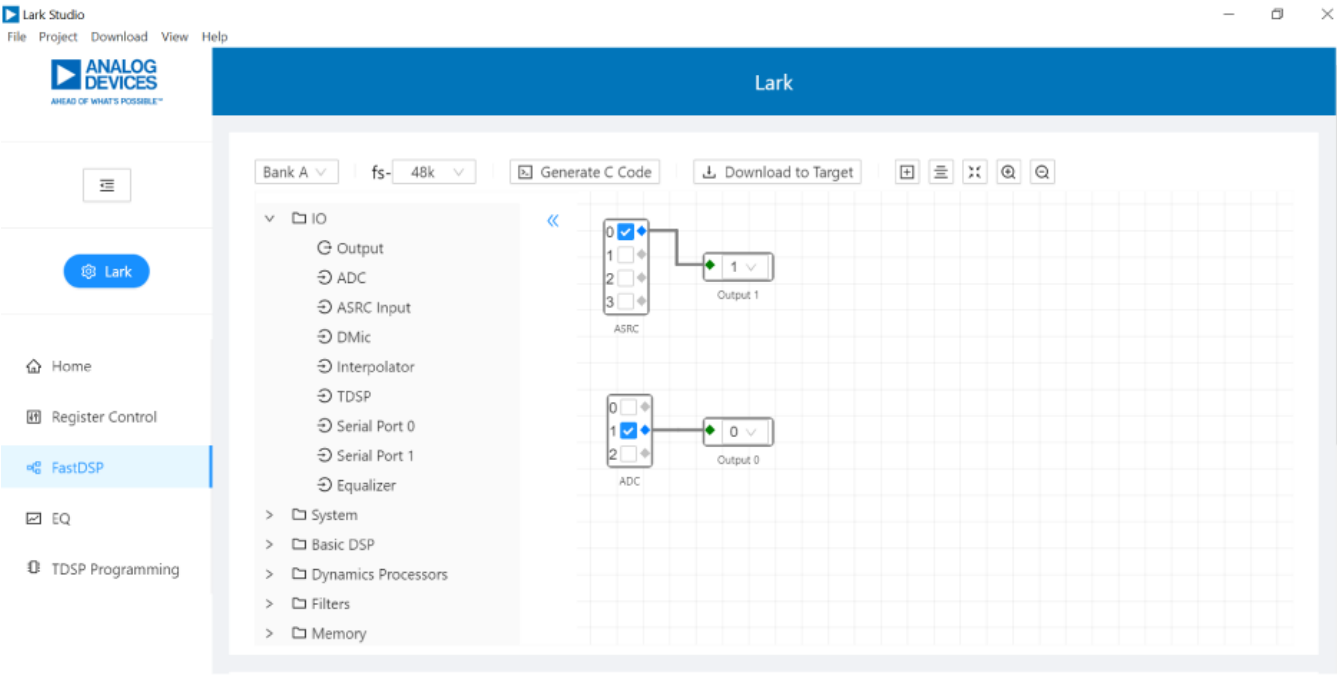

Figure 6. FastDSP Schematic Configuration
3. Select and drag an icon into the schematic window, for example, the **ADC** icon within the **IO** folder (see Figure 6). In this example, AIN1 and ASRCI0 are being routed to FastDSP Output 0 and Output 1 separately.